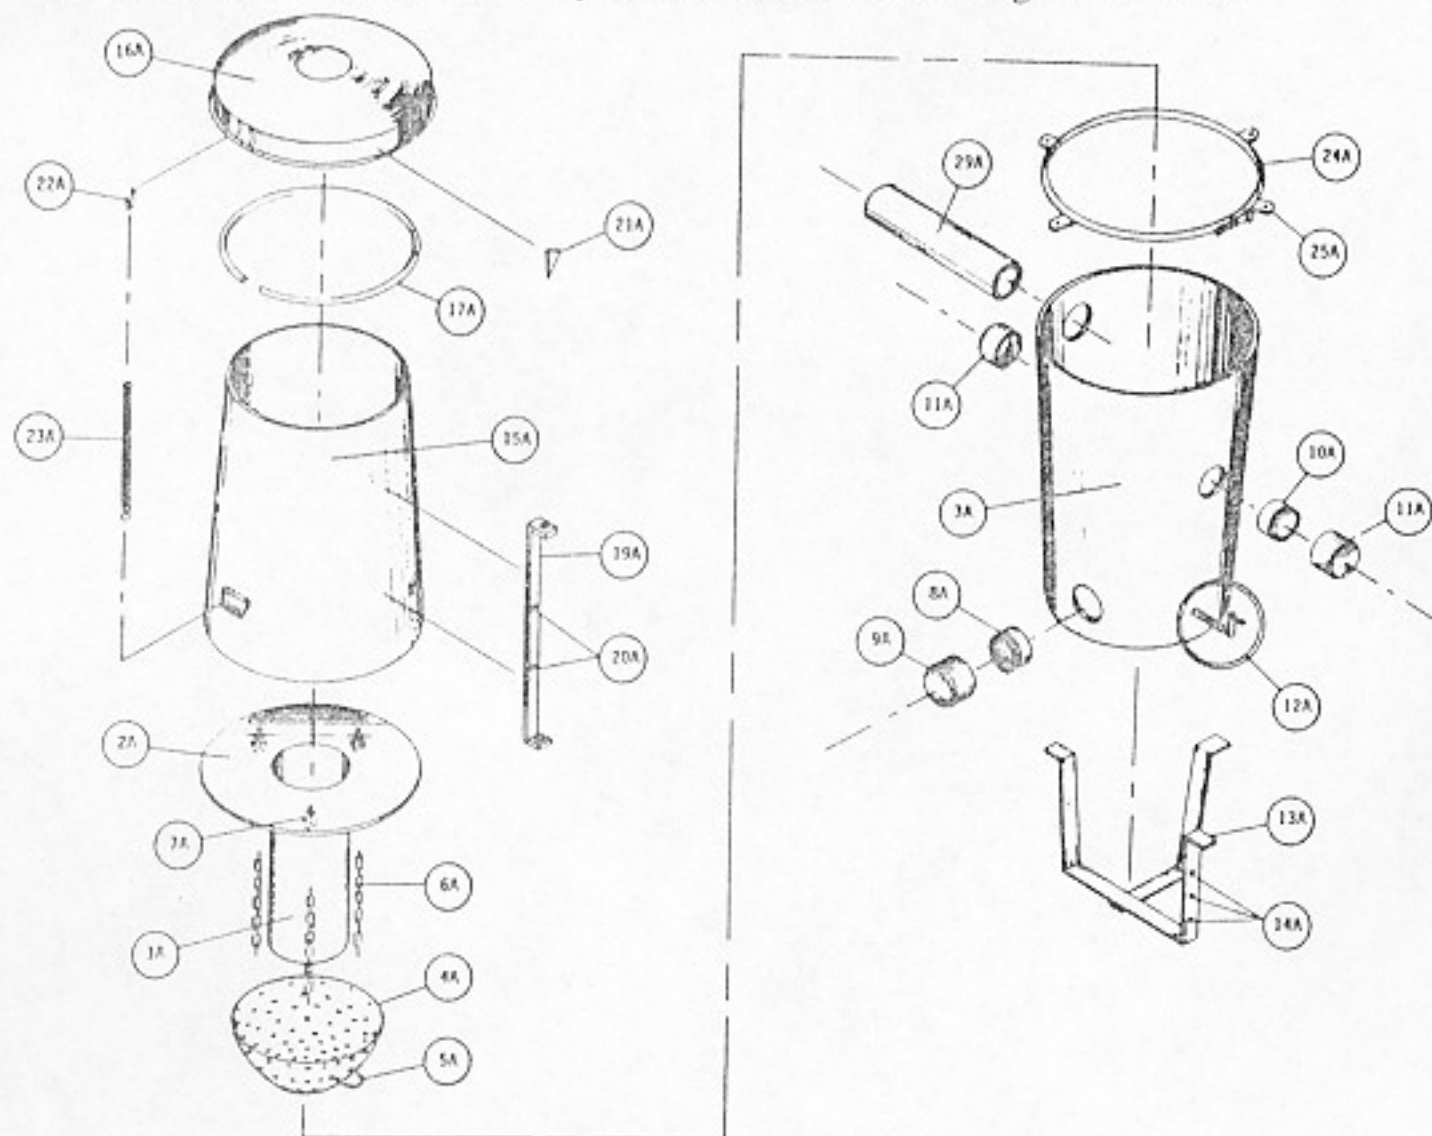

Fig. 2-2. Exploded, schematic diagram of the wood gas generator unit and the fuel hopper.
Figure 2-2 shows an exploded view of the gas generator unit and the fuel hopper; the list of materials is given in Table 2-1 (all figures and tables mentioned in Sect. 2 are presented at the end of Sect. 2). Only the dimensions of the fire tube (Item 1A) must be reasonably close; all other dimensions and materials can be substituted as long as complete airtightness is maintained. In the following instructions, all item numbers refer both to Fig. 2-2 and to Table 2-1.
6. Two holes, equal to the outside diameters of the ignition ports (Item 10A), are to be cut with their centers at a distance from the top of the housing drum (Item 3A) equal to the firetube length less 7 in. (19 in. less 7 in. equals 12 in. for this prototype unit); the holes should be placed opposite each other as shown in Fig. 2-2. The ignition ports should be attached to the wall of the housing drum by brazing.
The piping (Item 29A in Figs. 2-2 and 2-15) which connects the gas generator unit to the primary filter should be considered to be a necessary part of the cooling system and should never have an inside diameter less than 2 in. A flexible automotive exhaust pipe was used on the prototype filter unit described below; it was shaped into a semicircular arc so that increased length would achieve a greater cooling effect.